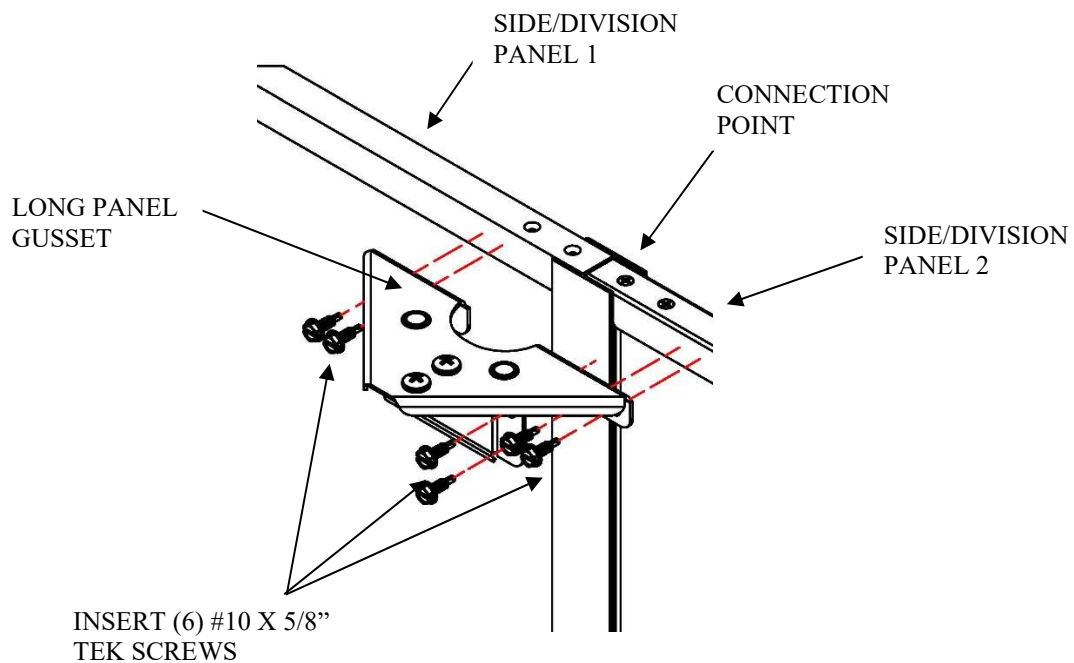

Figure 20
- Once gusset has been assembled, ensure that the top of the gusset and top of the panel are flush. Then, attach gusset to the side panel connection point using the supplied Tek screws, as shown in Figure 20.